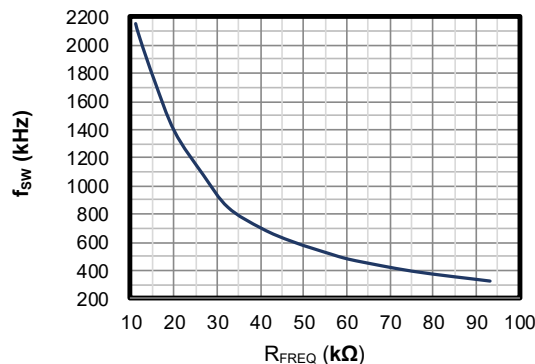

Figure 1: R3 Frequency Resistance
7. The MPQ4314's oscillating (switching) frequency can be configured by an external frequency resistor (R3). R3 can be estimated based on the switching frequency (f_{sw}) vs. frequency resistance (R_{FREQ}) curve (see Figure 1).